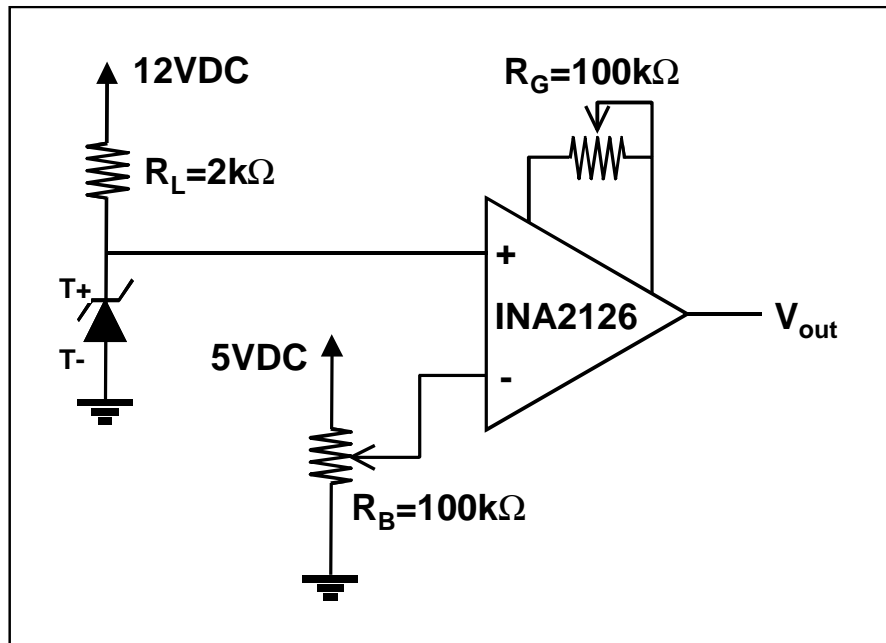

Figure 2. Temperature sensor excitation circuit
2. Using the T+ and T- pins of the 11-pin connector on the left of the breadboard, which are connected to the appropriate sensor pins through the PCB, connect the load resistor R_L in series with the LM335 sensor to 12VDC, as shown in Figure 2. Make sure the sensor responds to temperature.
3. Using the INA2126 instrumentation amplifier, implement the circuit shown in Figure 2.
- a. Take a look that the INA2126 data sheet to connect pins 5 and 7, reference and sense, respectively (not shown in Figure 2)
- b. Power the IC with ± 12 VDC (not shown in Figure 2)